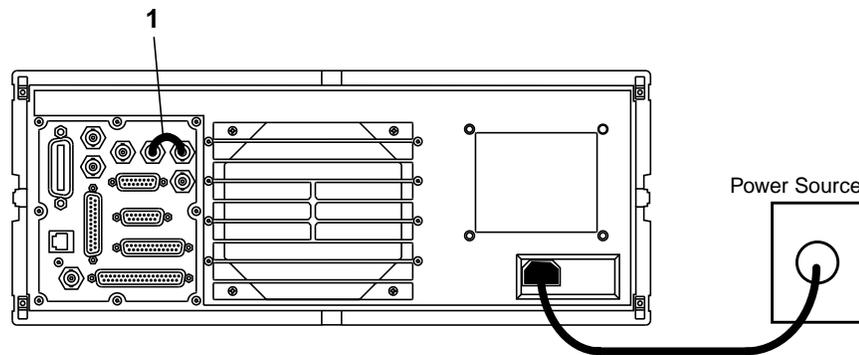

Figure 1-2
- 1 Connect a 1, 2, 5, 10, or 13 MHz signal to the REF IN. If you are using option 001, connect as shown, see Figure 1-2 on page 1-5, with the supplied cable (OPT 001 REF OUT to REF IN).